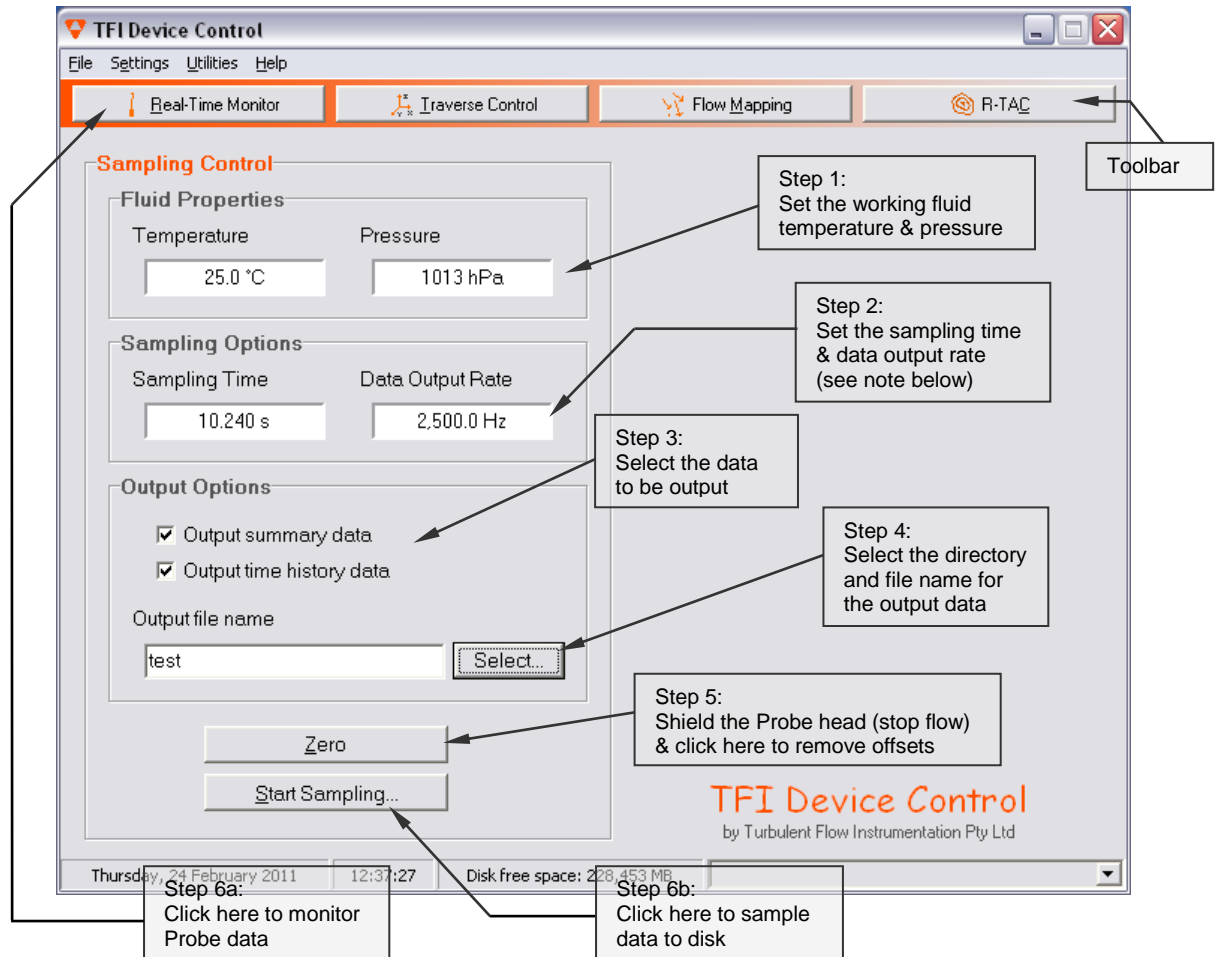

Figure 8: The Main screen of the *TFI Device Control* software & how to obtain data
The basic operation of a Probe is outlined in Figure 8, which shows the main screen that appears when the *Device Control* software is run.
There are two common data output files: plain text summary files and binary time-history (TH) files. The summary files contain an overall summary of the measured data. The TH files contain u , v , w and static pressure data for each measured sample, at the specified **Data Output Rate** (see Step 2, Figure 8). The TH files can be viewed within the Device Control software or directly loaded into MATLAB[®]. For use with other applications, such as spreadsheet applications, the binary TH files can be converted to plain text files.